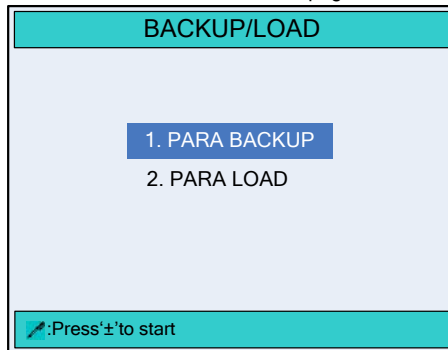

Figure 3-10 The **BACKUP/LOAD** page
On the **SYS PARA.** page, move the cursor to parameter **5.BACKUP/LOAD** (or press the number key 5), and press  to enter the **BACKUP/LOAD** page, as shown in Figure 3-10.